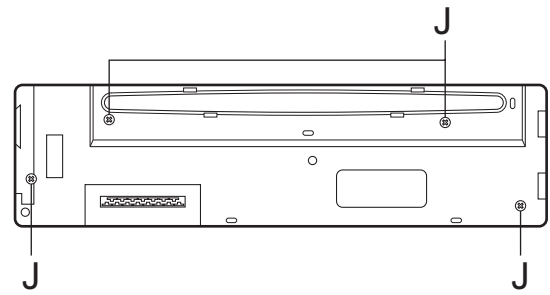

Fig.10
2.1.8 Removing the front board (See Figs.10 to 12.)
2.2.5 Removing the clamper assembly (See Figs.10 and 11)